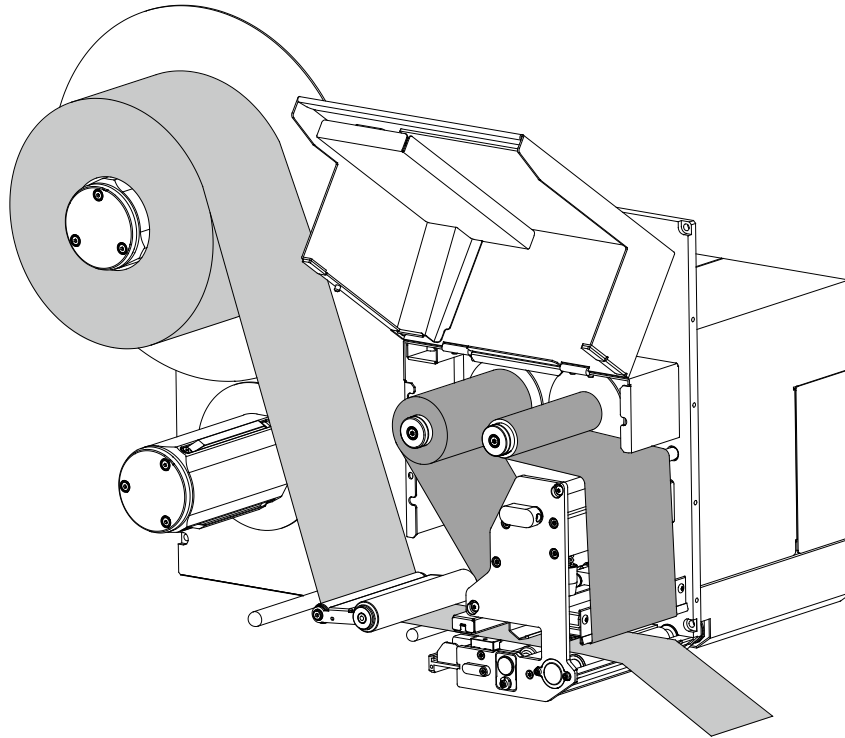

Figure 2-24 Load the Media
2. Thread the media along the Media Path as shown in Figure 2-10, loaded media is shown in Figure 2-24.